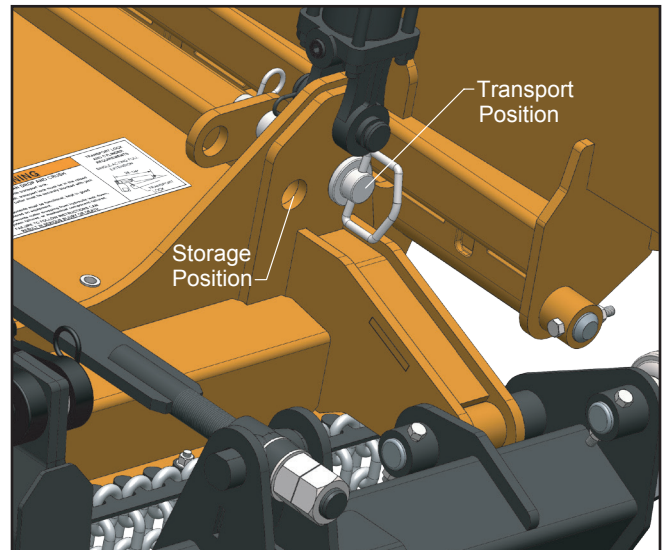

Figure 2. Transport Lock Pin
5. Lower cylinder against lock-up pins (Figure 2).